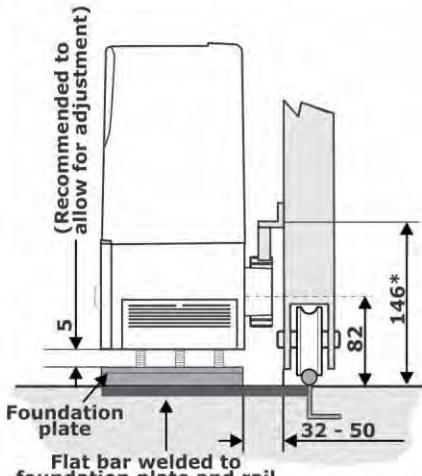

FIGURE 8A Steel rack, above pinion
- It is typical to mount the rack above the pinion as shown in Figures 8A, 9A and 10A for each type of rack considered. However, in each case, Figures 8B, 9B and 10B show the rack mounted underneath